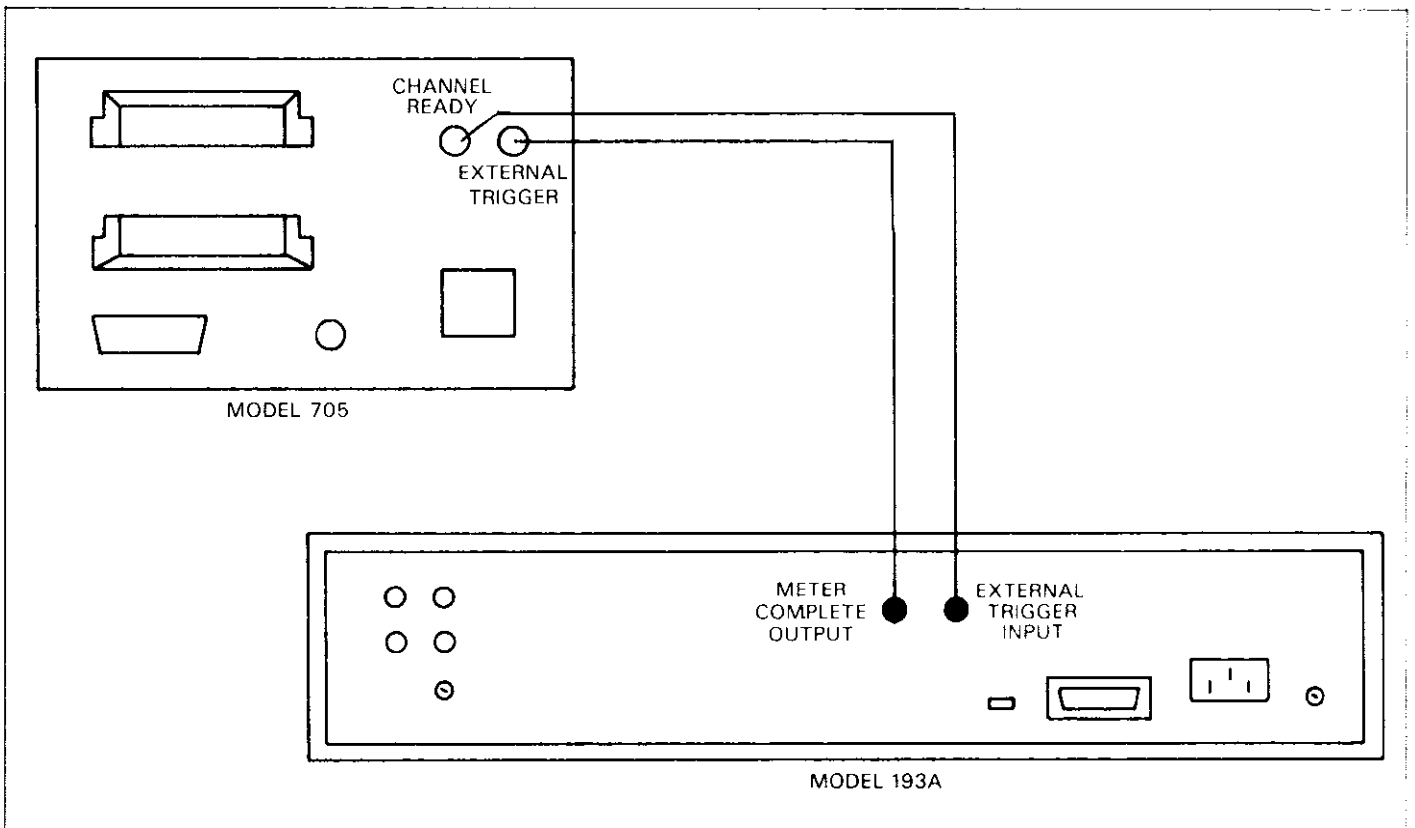

Figure 2-11. External Triggering Example
1. Connect the Model 193A to the Model 705 as shown in Figure 2-11. Use shielded cables with BNC connectors. The Model 193A VOLTMETER COMPLETE OUTPUT jack should be connected to the Model 705 EXTERNAL TRIGGER INPUT jack. The Model 193A EXTERNAL TRIGGER INPUT jack should be connected to the Model 705 CHANNEL READY OUTPUT. Additional connections, which are not shown on the diagram, will also be necessary to apply signal inputs to the scanner cards, as well as for the signal lines between the scanner and the Model 193A.